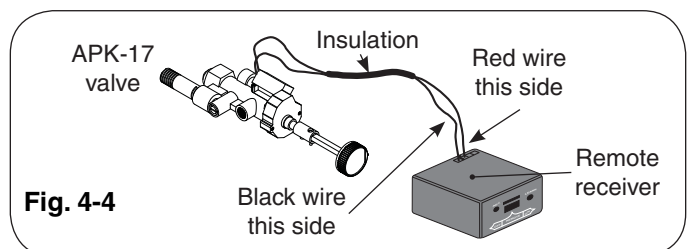

Fig. 4-4
- A. Discard the wires that come with the remote receiver. Connect the valve wires to the remote receiver as shown in Fig. 4-4.